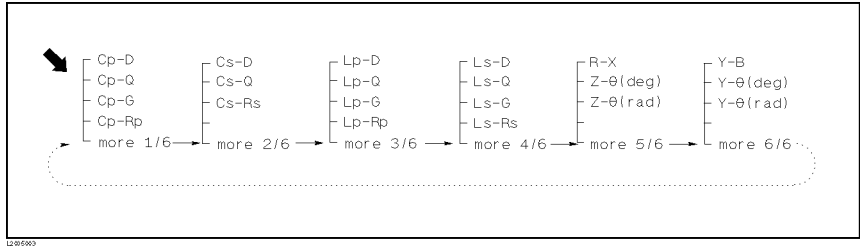

Figure 5-3. Measurement Function Display Order
2. Press **more X/6** until the desired softkey labels are displayed. Figure 5-3 shows the display order of the measurement functions.